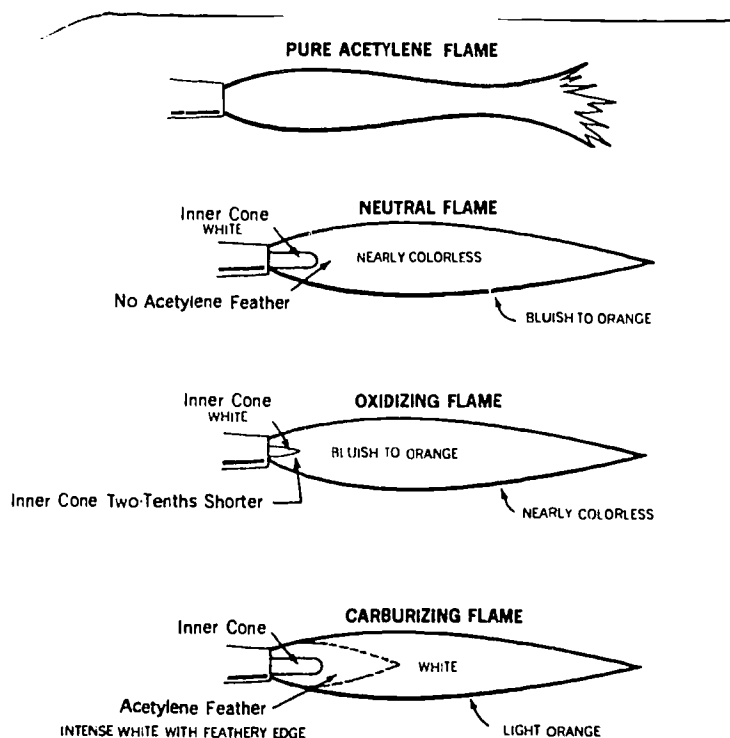

Figure 9
1. Check the thickness of the metals to be welded (figure 8) and prepare as described and illustrated in figure 9.
11. Keep opening the fuel valve until the flame stops smoking and leaves the end of the torch tip about one-eighth inch; then, slightly reduce the fuel supply to bring the flame back to the torch tip (see figure 9).
12. Open the torch oxygen _____ until a bright neutral flame is reached (see figure 9).